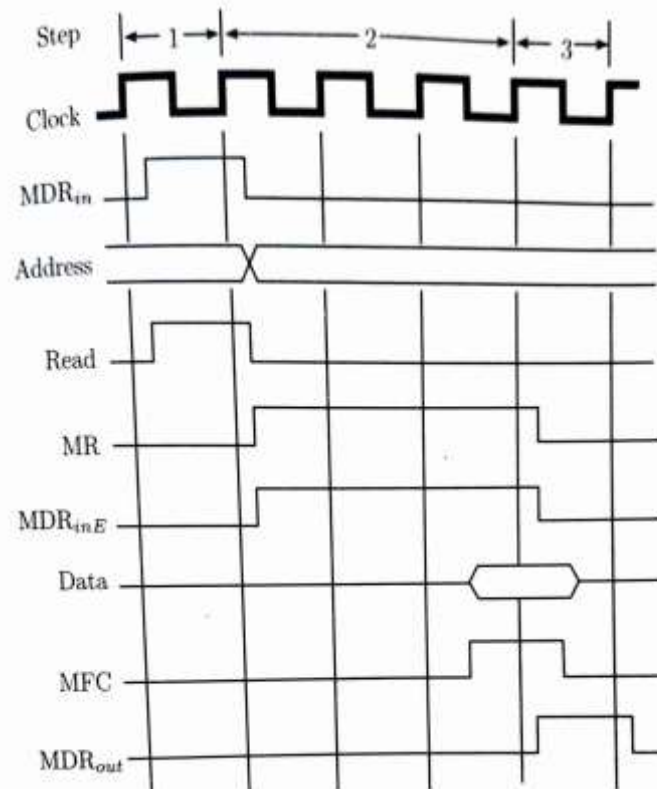

Fig 5: Timing of a memory read operation
- When a new address is loaded into MAR, it will appear on the memory bus at the beginning of the next clock cycle as shown in fig 5.